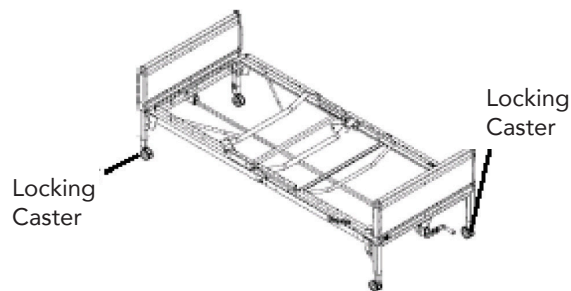

Figure 4B: Locking Caster Positioning
2. Position the two locking casters so they will be diagonally opposite from one another when the bed is assembled. See Figure 4B.